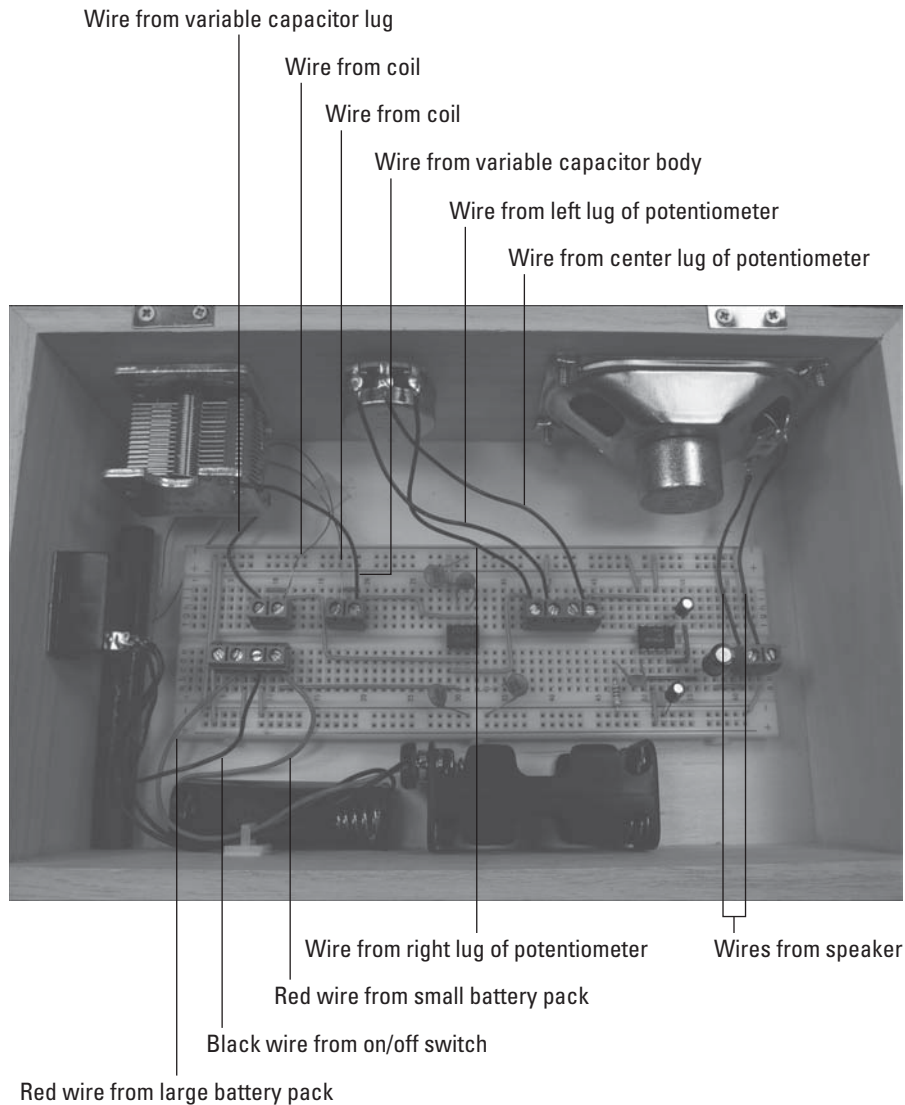

Figure 8-14: Connect the speaker, variable capacitor, on/off switch, and battery packs to the breadboard.
3. Insert the wires from the speaker, potentiometer, variable capacitor, coil, battery packs, and the on/off switch to the terminal blocks on the breadboard, as shown in Figure 8-14.